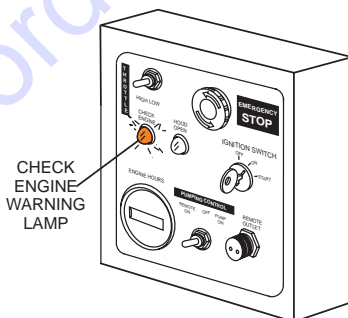

Figure 34. Engine Warning Lamp
The C30HDGA concrete pump features an engine malfunction indicator lamp found on the control box (Figure 34). When a malfunction in the operation of the engine is detected, the orange check engine light will illuminate.
3. Verify that check engine warning lamp on the control box is on (lit). See Figure 34.